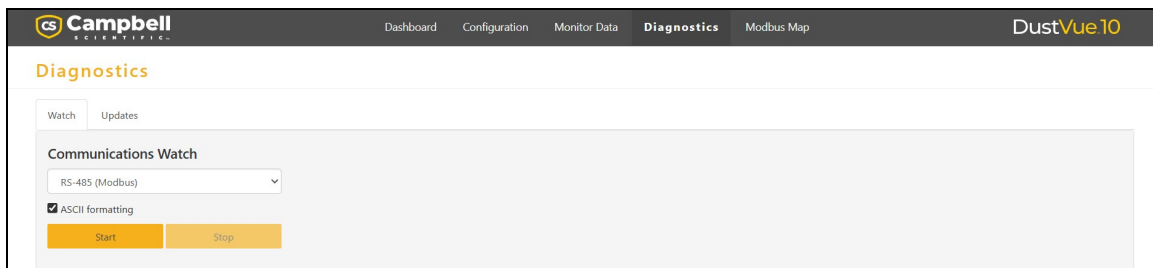

Figure 4-13. Diagnostics tab
6. The **Diagnostics** tab (Figure 4-13 [p. 10]) shows RS-485 communications and updates sensor firmware (see Updating firmware [p. 28]).